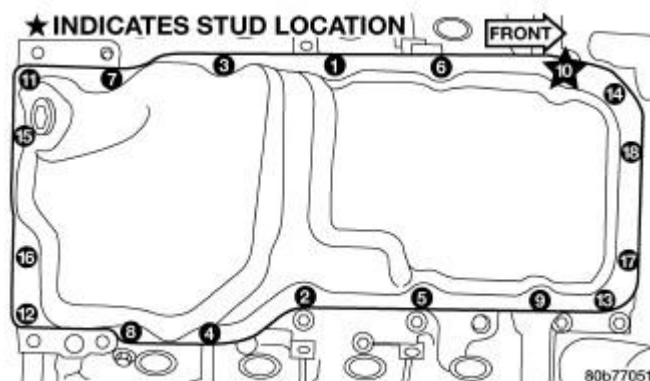

Fig. 150: Oil Pan Tightening Sequence
16. Tighten the oil pan bolts to 15 N.m (11 ft. lbs.) in the sequence shown in illustration. See **Fig. 150**.